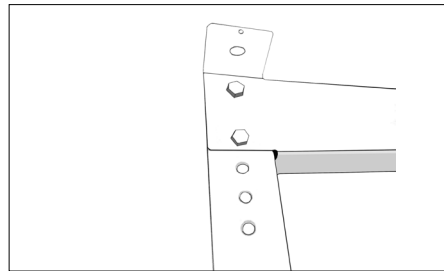

Fig. 4.1b Console holes
- Mount MAP-kit (A) (except for 8 in (20 mm) hose reels, as MAP-kit is not needed).
- Mount hose to the socket inside the drum using clamp (B).
- Bend hose into a natural soft curve and fasten it using clamp (C).
- Mount the edge protection (D) at the opening of the drum where the hose protrudes.
- Check the console holes to ensure they are set for the 6 in. (150 mm) hole position (E), as shown in fig. 4.1b. The console provides multiple holes for Plymovent spring operated hose reels, and these do not need to be adjusted for MER.